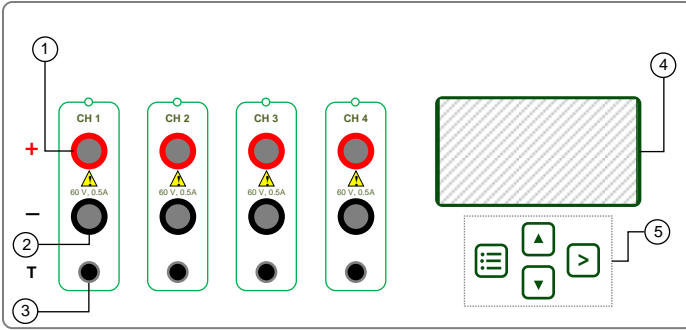
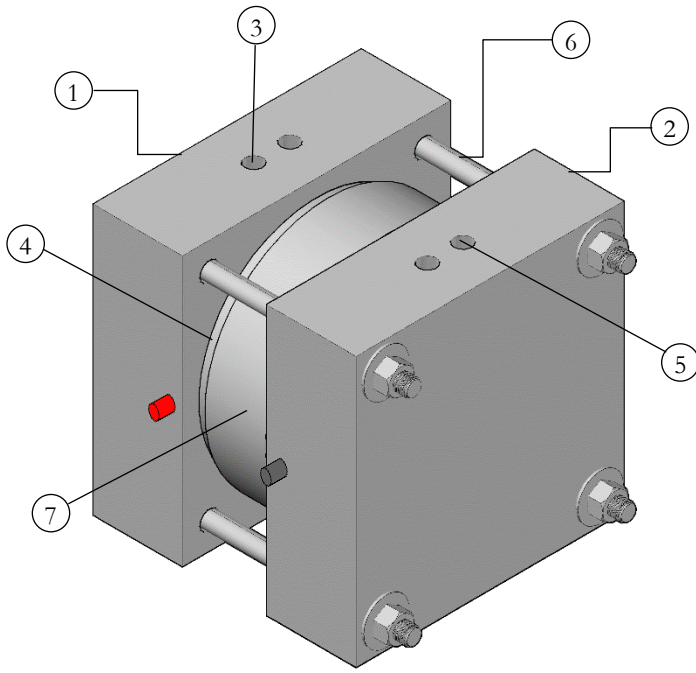

Figure 2: Front Panel View
Figure 4: Assembled Test Cell
Giatac Perma2™ has two main components: A measuring device (Fig. 2, and 3), and four concrete sample cells (Fig. 4). The measuring device can be used as a stand-alone equipment to perform the tests. It can also be connected to a personal computer (PC) using the USB connection port. The Data Monitor software provided in the package controls the device and also records the measurement data. In this section, the key functions of these components are described.
The front panel of the measuring device includes channel ports (see Fig. 2 Items 1, 2 and 3), Display, and the control keypad. The test cells are connected to the measuring device using the cables included in the package.